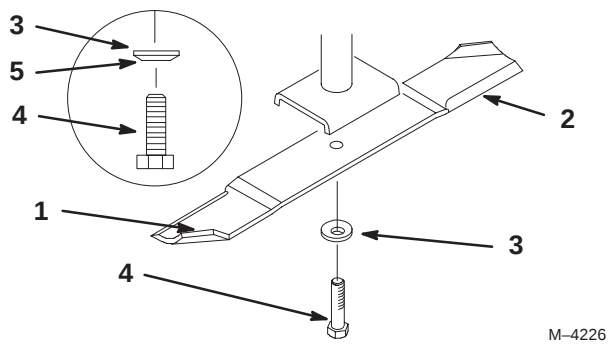

Figure 32
1. Hold the blade end using a rag or thickly-padded glove. Remove the blade bolt, spring disk and blade from the spindle shaft (Fig. 32).
2. Check the balance of the blade by putting it on a blade balancer (Fig. 31). If the blade stays in a horizontal position, the blade is balanced and can be used. If the blade is not balanced, file some metal off the end of the sail area only (Fig. 32). Repeat this procedure until the blade is balanced.
1. Install the blade onto the spindle shaft (Fig. 32).
2. Install the spring disk and blade bolt (Fig. 32). **Torque the blade bolt to 85–110 ft.-lb. (115–150 N•m).**